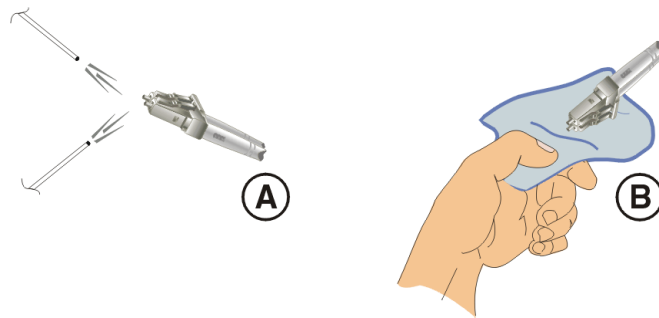

Figure 4-29 Clean Fiber-Optic Components
2. Disconnect the fiber-optic cable from the port. Use compressed air to blow any contaminants from the connector (part **A** of Figure 4-29).
3. Gently wipe the end-face and other surfaces of the connector with an alcohol pad (part **B** of Figure 4-29). Ensure the pad makes full contact with the surface to be cleaned. Wait approximately five seconds for cleaned surfaces to dry.